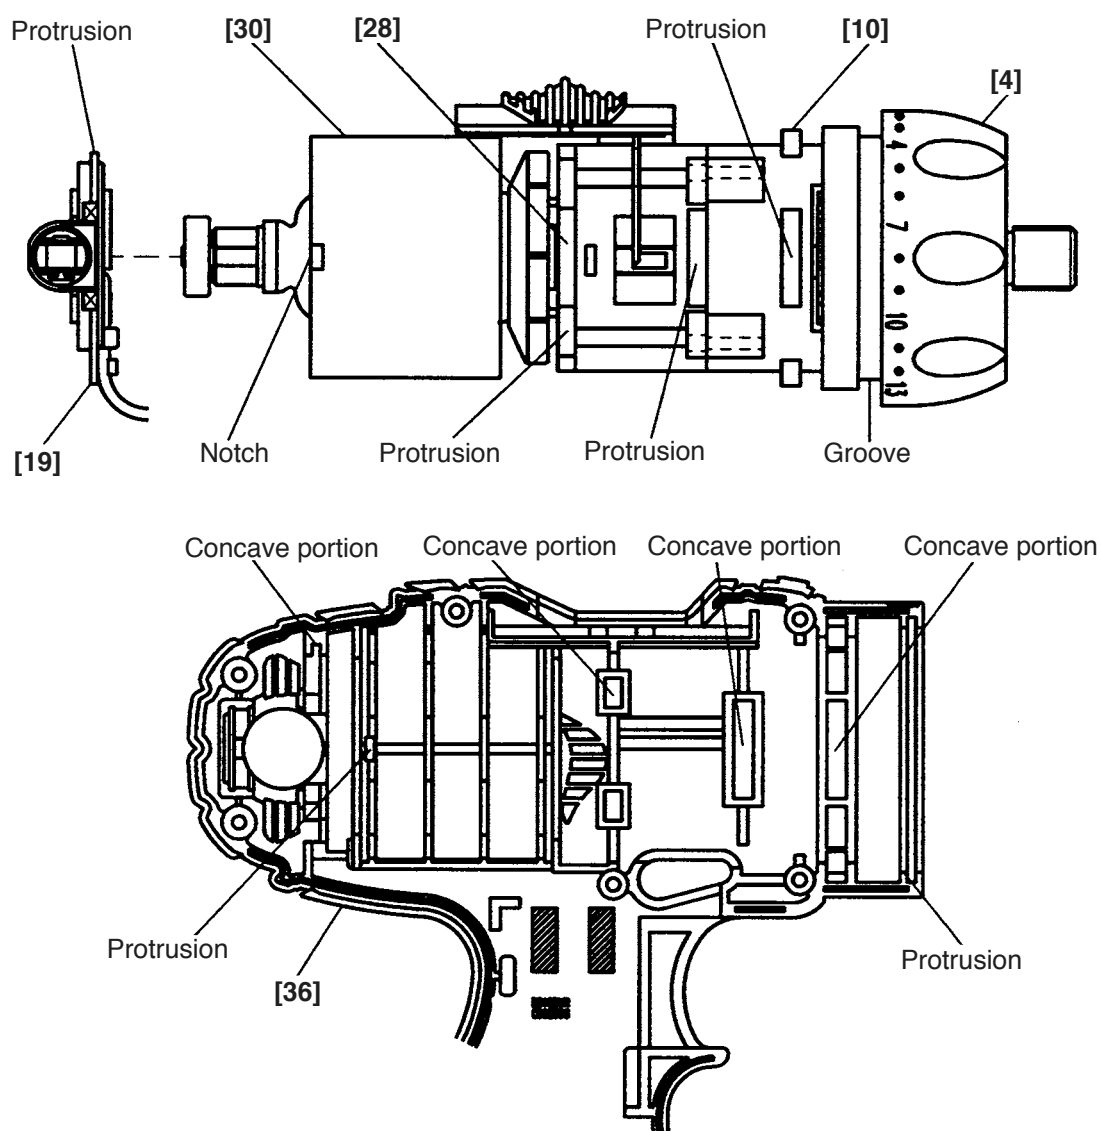

Fig. 13
(6) Reassembly of the main unit
(a) Mount the power supply unit and the drive unit that were reassembled in the above procedure to Housing (A) [36]. At this time, align the protrusions of the Brush Block [31], Front Case [10] and Motor Spacer [28] with the concave portions of Housing (A) [36], the notch of the Magnet [30] with the protrusion of Housing (A) [36], and the groove of the Front Cap [4] with the protrusion of Housing (A) [36] (see Fig. 13).